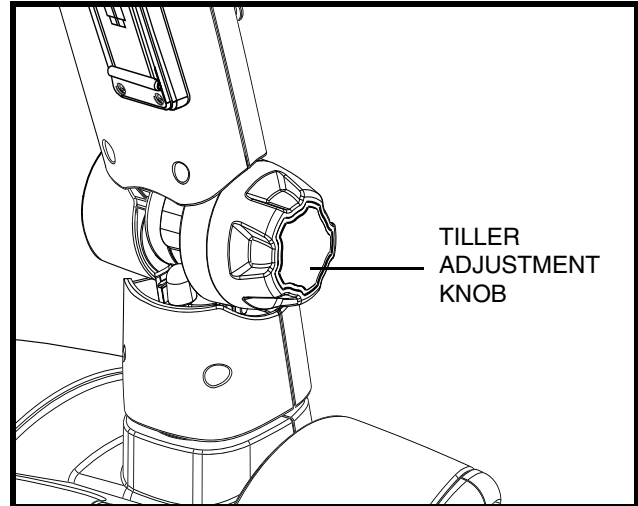

Figure 13. Tiller Adjustment
1. While supporting the tiller, turn the tiller adjustment knob anticlockwise to loosen the tiller. See **figure 13**.